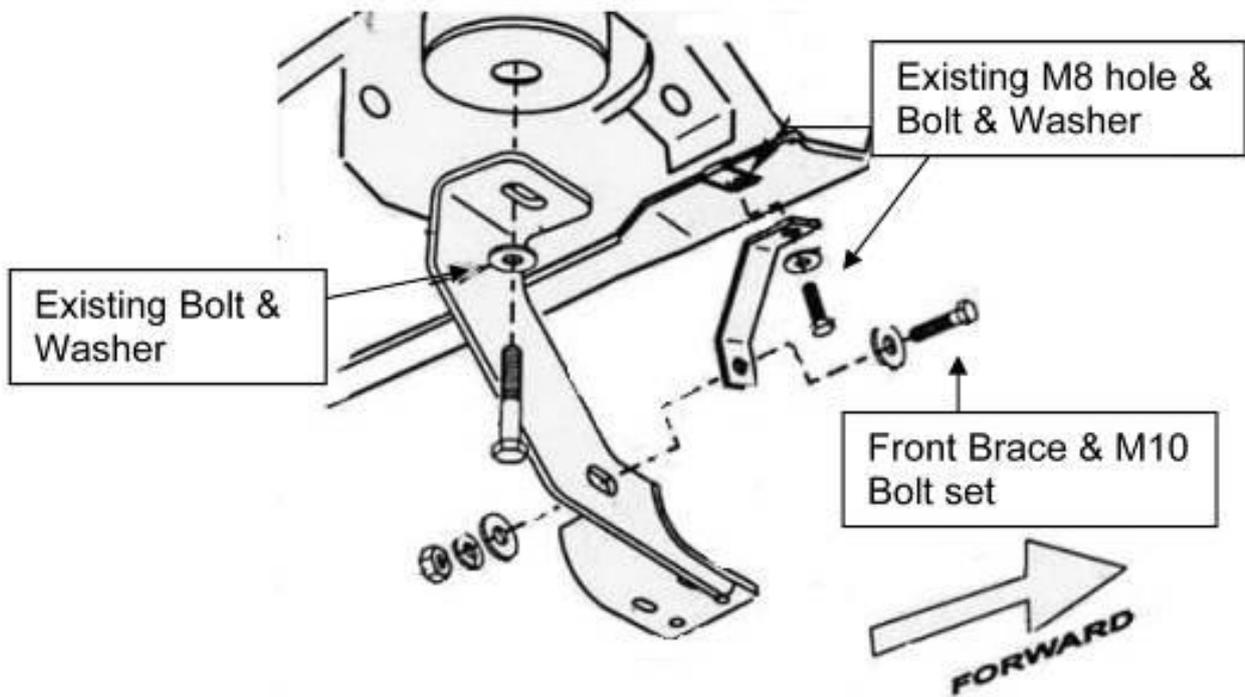

Figure 4. Driver Side Front Bracket Shown
5. Remove existing M8 bolt and flat washer from underside of front body panel as shown. DO NOT DISCARD! (Fig. 4).